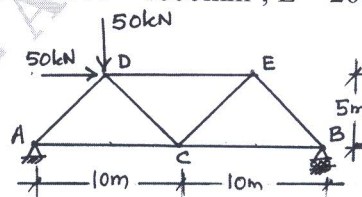

Fig.Q.6(a)
- 6 a. Determine the horizontal movement at support B of the steel truss loaded as shown in Fig.Q.6(a) by unit load method. Take $A = 1000 \text{ mm}^2$, $E = 200 \text{ GPa}$. (10 Marks)